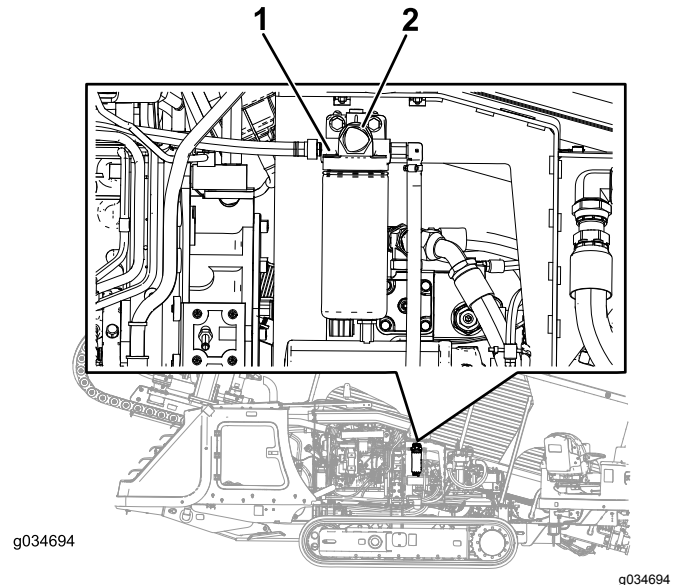

Figure 98
- Locate the PRIMING button on the top of the filter adapter for the primary fuel filter (Figure 98).
- Press down and release the PRIMING button repeatedly until you feel resistance when pressing the PRIMING button (Figure 98).
3. Place clean rags under the primary fuel filter (Figure 98).
4. Loosen the hose clamps and separate the primary fuel filter from the fuel hoses (Figure 98).
6. Slip the hoses over the hose fitting of the primary fuel filter, and tighten the hose clamps (Figure 98).